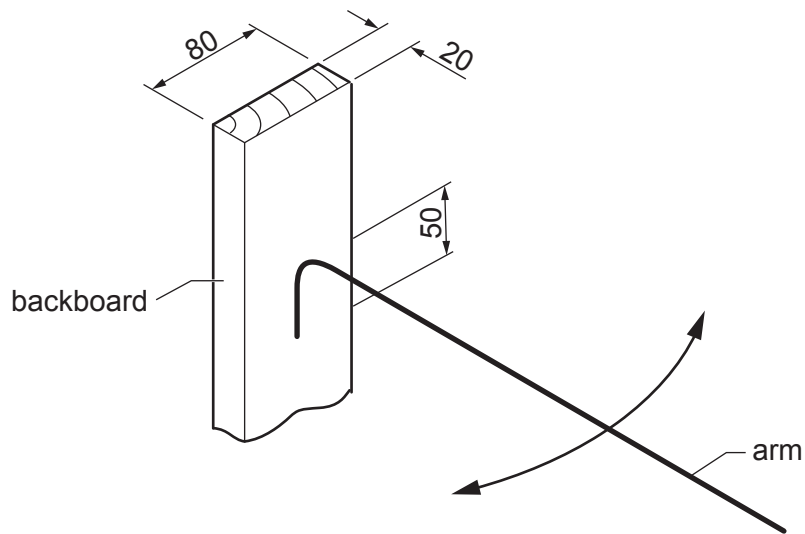

Fig. 10.1
- 10 Fig. 10.1 shows part of an incomplete design for a towel rack. The backboard is made of hardwood and the arm is made from $\varnothing 8$ aluminium rod.
Use sketches and notes to show how the arm could be attached to the backboard and allowed to 'swing' as shown in Fig. 10.1.